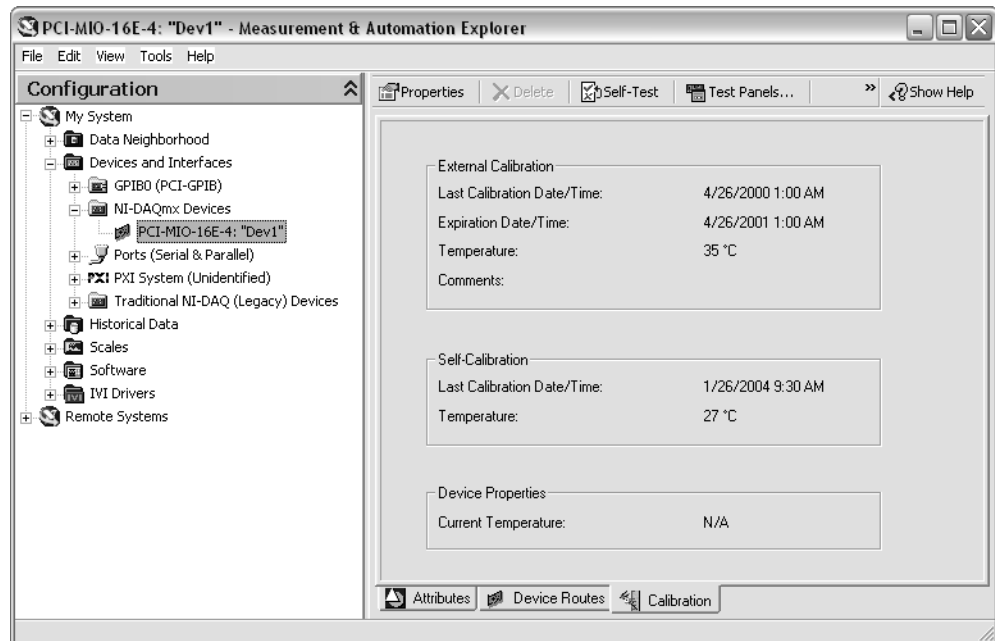

Figure 8-5. Calibration
7. Select the **Calibration** tab, as shown in Figure 8-5, to see information about the last time the device was calibrated both internally and externally.